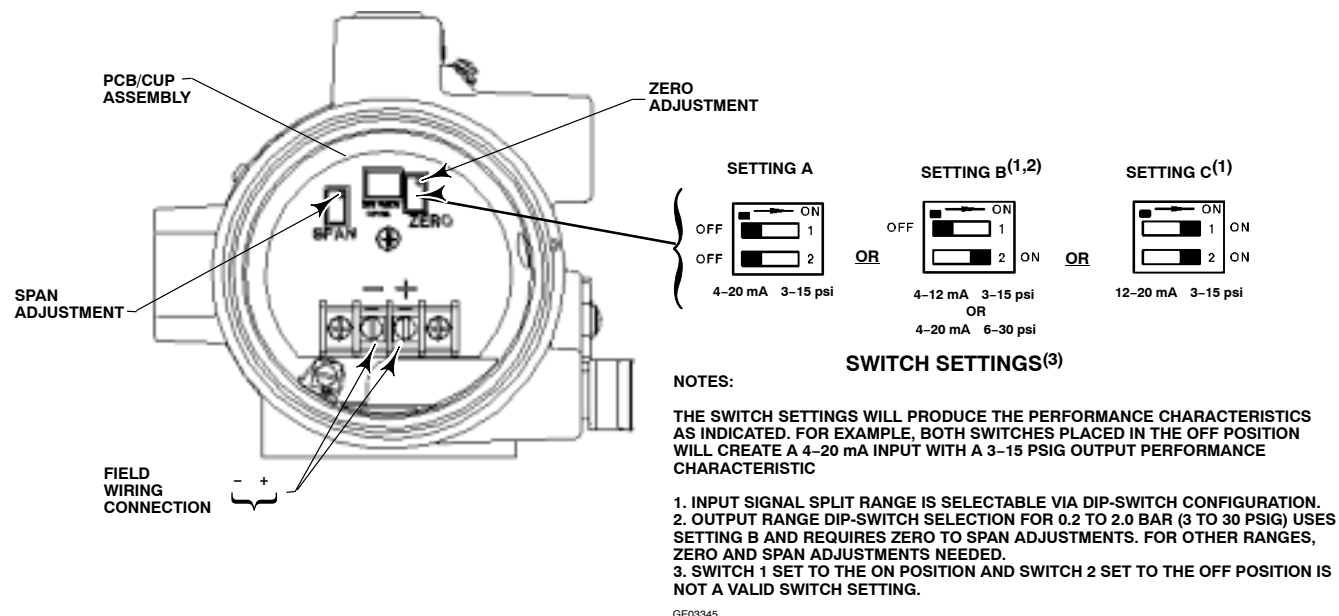

Figure 10. Zero and Span Adjustments and Switch Settings
Refer to figure 10 for adjustment locations.
2. Input and output ranges are selectable by dip switch selection. Refer to figure 10 for dip switch settings. Adjust dip switch settings and zero and span as necessary to achieve the desired input/output range.
3. Check switches and ensure that they are properly set. Refer to figure 10.